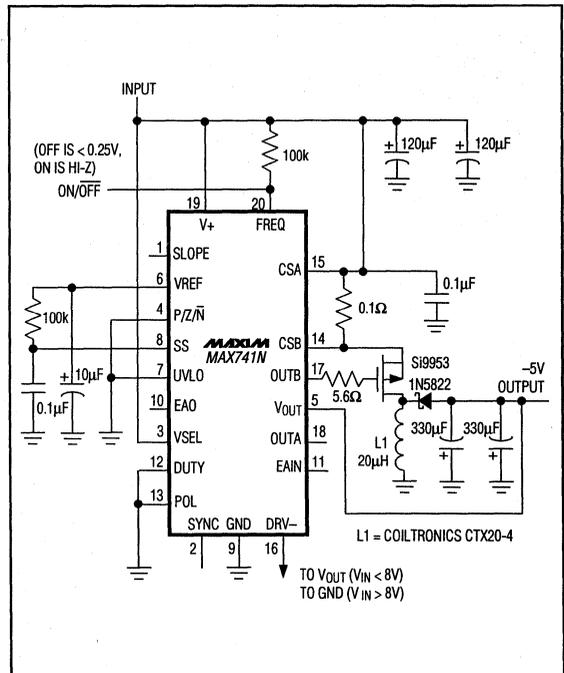

Figure 83. -5V from 5V at 1A: Inverting PWM Controller
-5V at high power is occasionally needed in portable equipment for analog or ECL circuitry. A standard inverting topology is usually indicated, as shown in Figure 83. The relatively wide input voltage range of this circuit makes it useful for 4-8 cell NiCd battery packs as well as with fixed 5V input. The MAX741 "Swiss army knife" PWM controller is pressed into service here as an inverter, driving an external P-channel MOSFET high-side switch. The shrink small-outline package (SSOP) can help keep the surface-mount version of this circuit small.